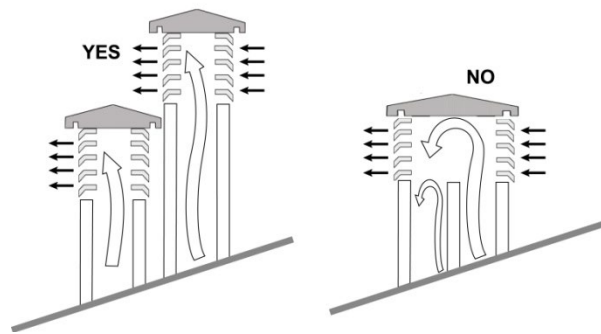
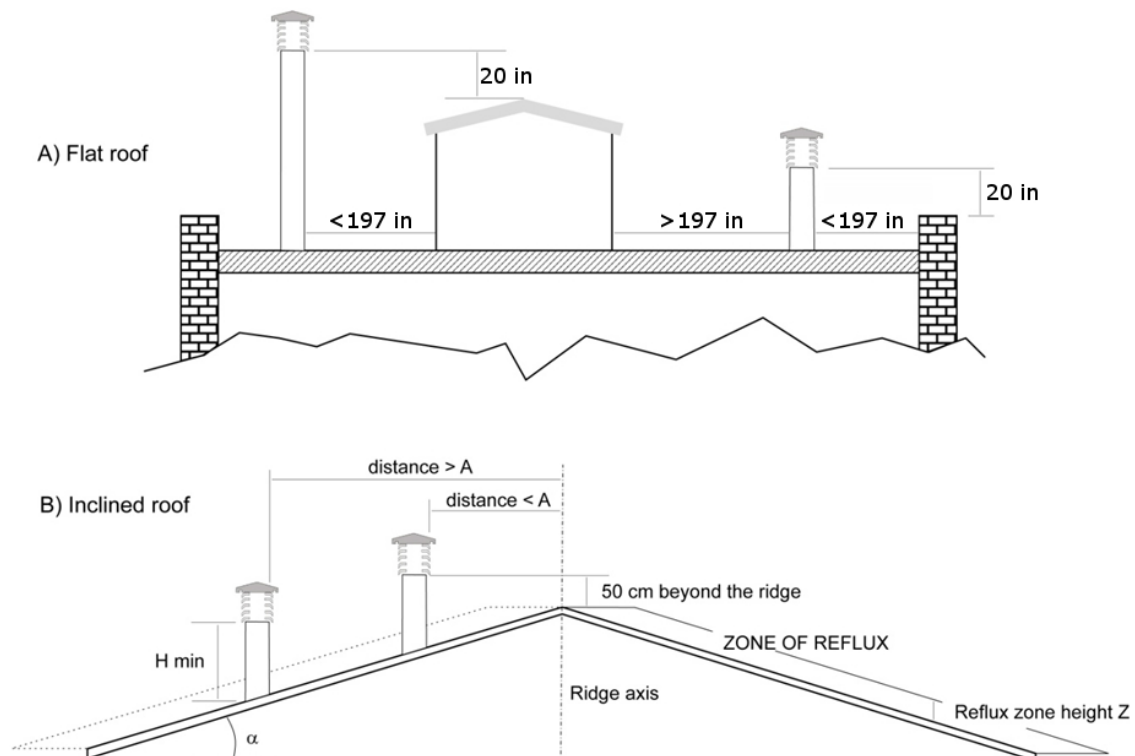

Fig.3
Fig.4
- Whenever using parallel output chimneys, it is advisable to raise a bracing element. (Fig.3)
- The chimney cap must be positioned so as to guarantee an adequate dispersion and dilution of combustion products and, in any case, outside the zone of reflux. This zone can be different sizes and shapes depending on the angle of slope of the roof, so it is necessary to adopt the minimum heights shown in Fig.3 and Fig.4.
- The chimney cap must be of windproof and exceed the height of the ridge, Fig.3 and Fig.4.
- Any buildings or other obstacles that exceed the height of the chimney cap must not be close to the chimney cap itself (Fig.3).